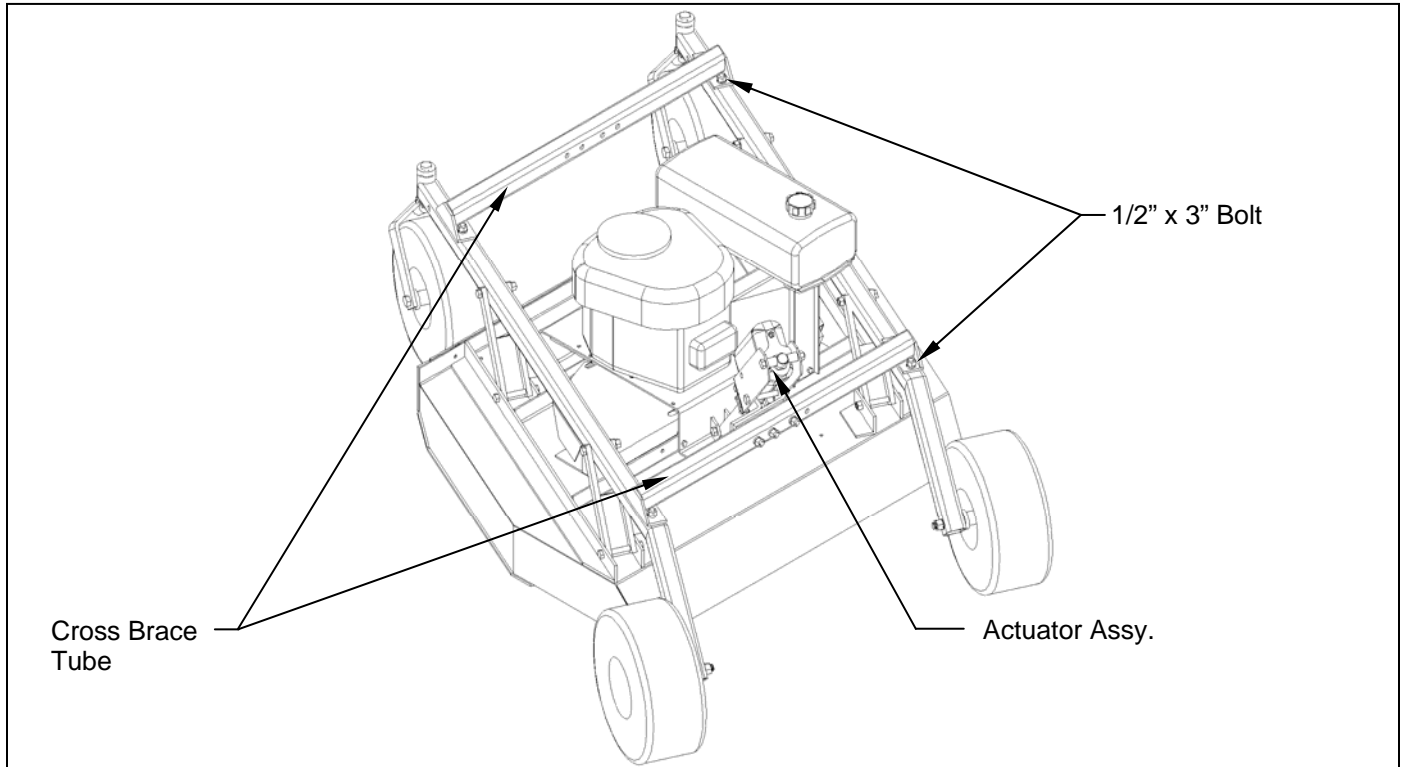

Figure 3. Cross Brace Tube Installation
1. Install the upper actuator supports on the carrier arms with the provided 1/2” x 3” hex head bolts, lock washers and nuts. Only hand tighten the hardware for this step. The support that has the electric linear actuator fastened to it needs to be placed on the rear location. Orientate the support such that the actuator hangs towards the engine. **See figure 3.**